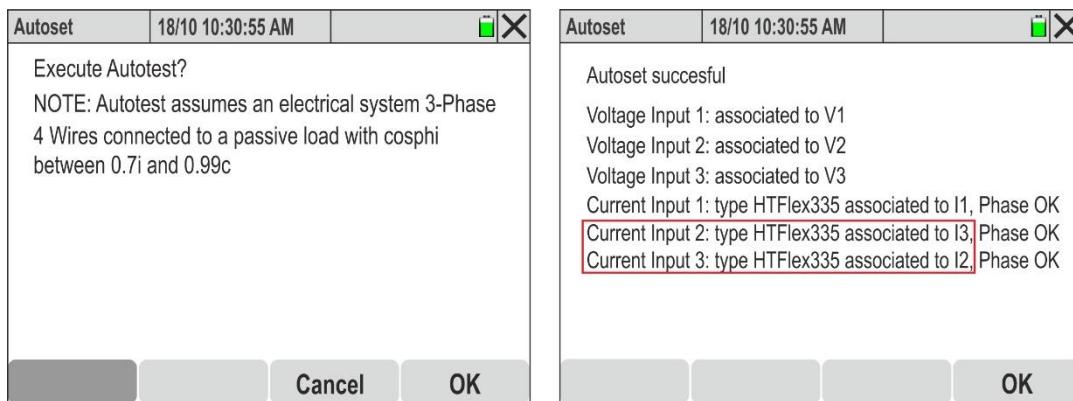

Fig. 72: Autoset execution with connection errors (clamps reversed)
8. The Fig. 72 - right side shows how the Autoset function has detected and **automatically corrected** an incorrect reading on phases L2 and L3 due to the **incorrect connection of the current clamps (clamps 2 and 3 reversed)**